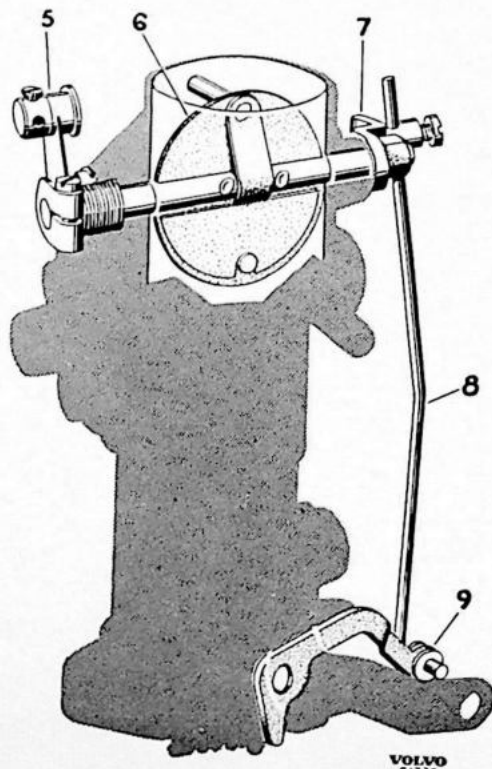

Fig. 17. Choke system.
The choke system, Fig. 17, is used only when starting a cold engine and during initial warm-up. It consists of a choke plate (6) located in the carburetor air horn which is controlled from the instrument panel by means of a Bowden cable attached to lever (5) on the choke plate shaft. Its purpose is to supply the engine with a richer fuel-air mixture by restricting the air flow into the carburetor.